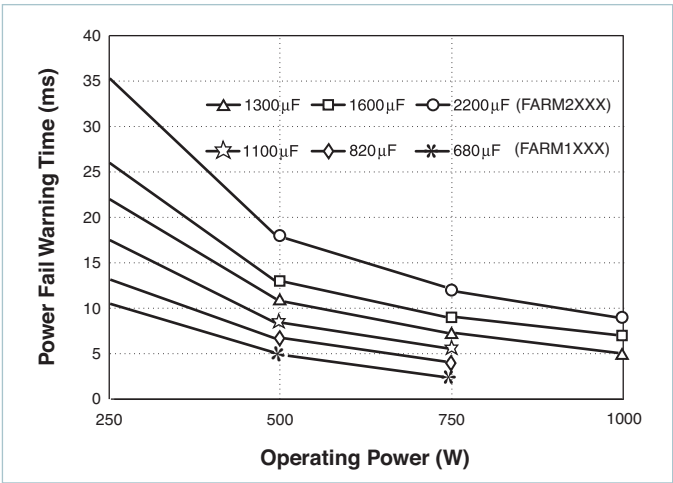

Figure 14 — Power fail warning time vs. operating power and total bus capacitance, series combination of C1, C2 (See Figure 9)
Calculated values of bus capacitance for various hold-up time, ride-through time, and ripple voltage requirements are given as a function of operating power level in Figures 14, 15, and 16, respectively.
**Warning:** Figure 14 is used to determine capacitance for a given power fail warning time and power level, and shows that the total bus capacitance must be at least 820 $\mu$ F. Since two capacitors are used in series, each capacitor must be at least 1,640 $\mu$ F. Note that warning time is not dependent on line voltage. A hold-up capacitor calculator is available on the Vicor website, at: [vicorpower.com/hubcalc](http://vicorpower.com/hubcalc).